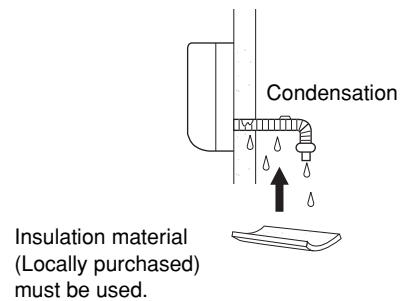

Fig. 44
- c) If the drain hose will run in the room, insulate the hose with insulation* so that chilled condensation will not damage furniture or floors. (Fig. 44)